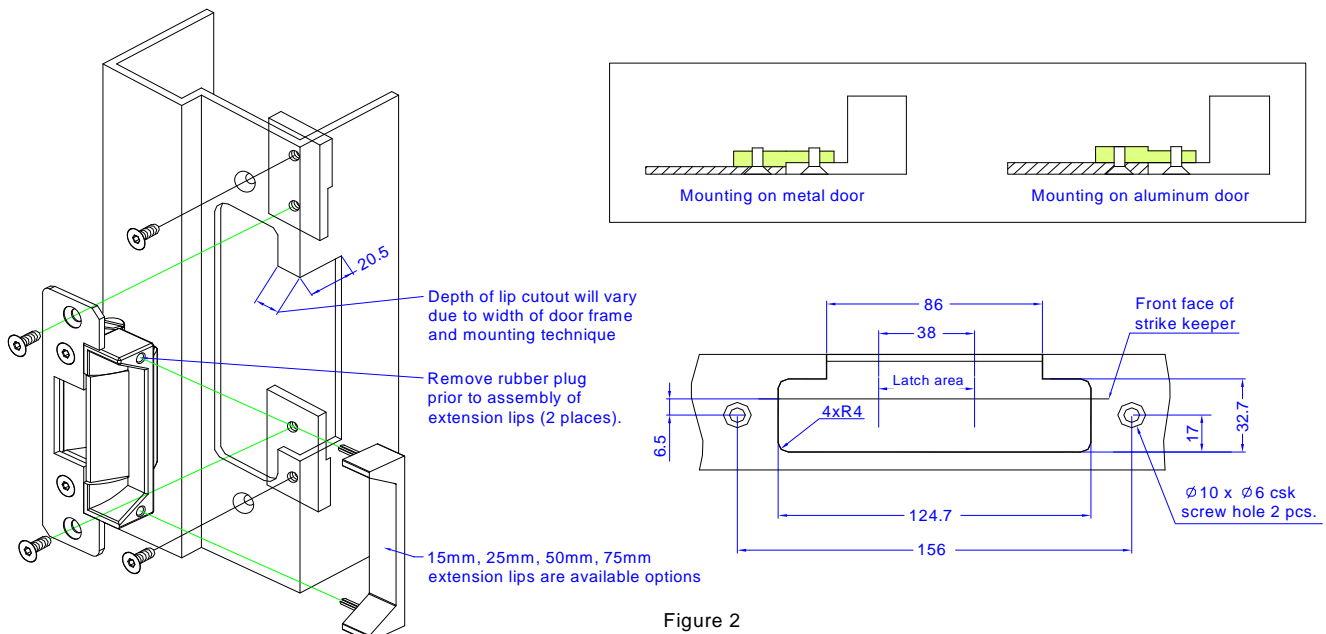

Figure 2
- 1). For aluminum or metal door frame brackets are supplied for assembly, refer to Figure 2. For timber door frame refer to Fig. 3. mark and drill the hole sizes as indicated on Figure 2 and Figure 3.